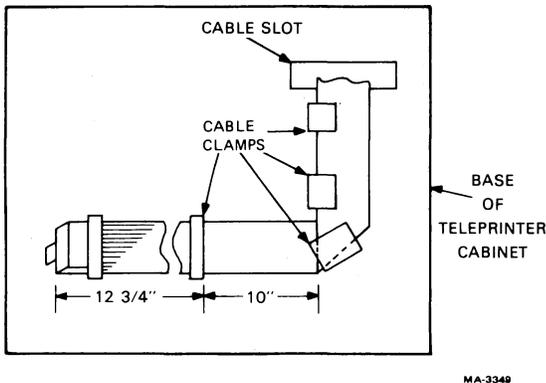

Fig. 6-Print Head Cable
- (a) Install one end of the cable as shown in Figure 6.